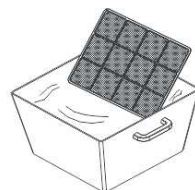

Fig. 5
2. Use a portable vacuum cleaner or gently shake the filter to remove dust. If the filter is too dirty, clean the primary filter with warm water with moderate force (fig. 5)